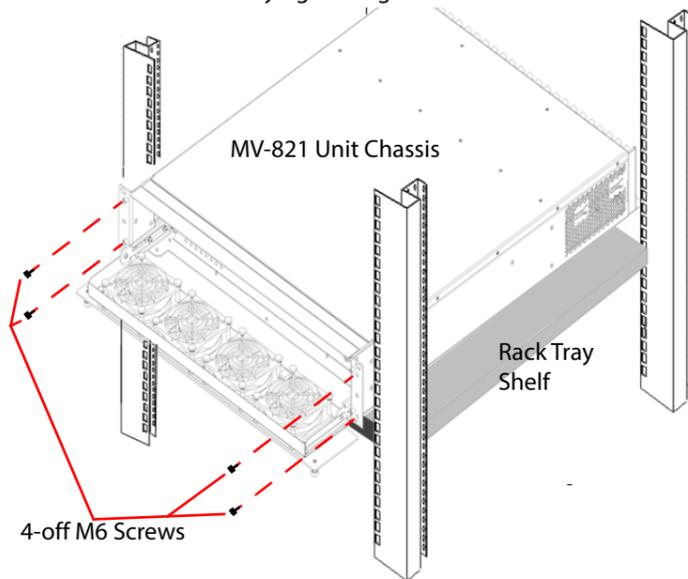
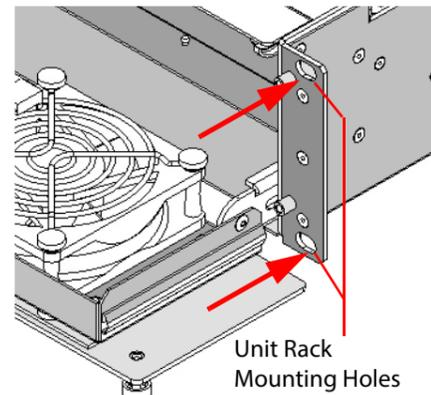

Figure 3 Rack-Mounting MV-821 Unit
Figure 4 MV-821 Unit Rack Mounting Holes
4. Secure the MV-821 Multiviewer chassis in the rack at each mounting hole using 4-off M6 screws. See **Figure 3** and **Figure 4**.